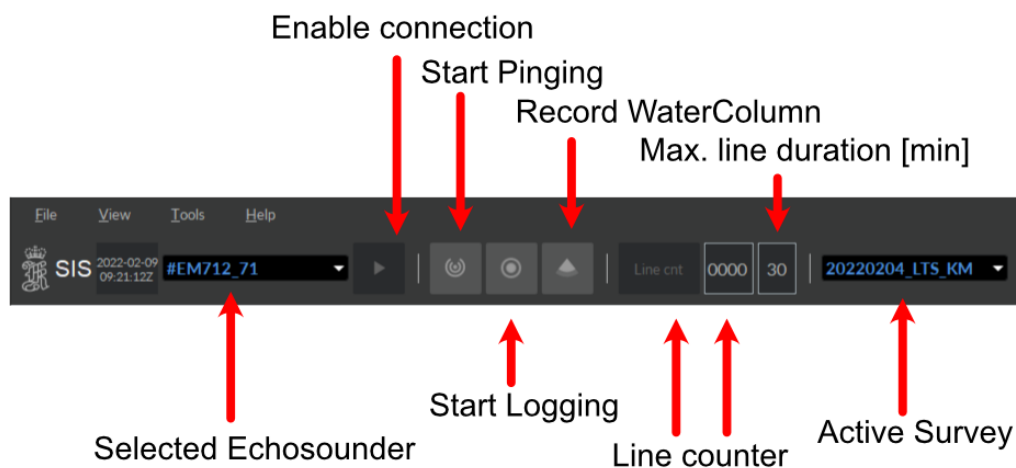

Figure 11: The main frame
Before starting pinging, the echo sounder must be turned on. Select the echo sounder from the **Echo sounder - not started** combo box (Figure 11). The **Logging** and **Pinging** buttons will all be disabled until the echo sounder is ready. When the echo sounder is ready, pinging can be started.
Pinging must be started manually after the echo sounder is ready. Press the **Pinging** button on the toolbar. The button is red when **Off** and green when **On** (Figure 11).
Logging must be started manually after the echo sounder is ready. When the echo sounder has started logging, data is automatically saved to disk in *.kml file format (Figure 11).
For logging the water column data press the **WCL** button on the toolbar it will turn from grey to red if logging is enabled and will turn green during logging (Figure 11). This data will be written to *.wcd files in your selected folder, separately from the *.all files.
- Observe the three status lamps on the main toolbar which give status of hardware units (applies to multibeam echo sounders only) (Figure 11).